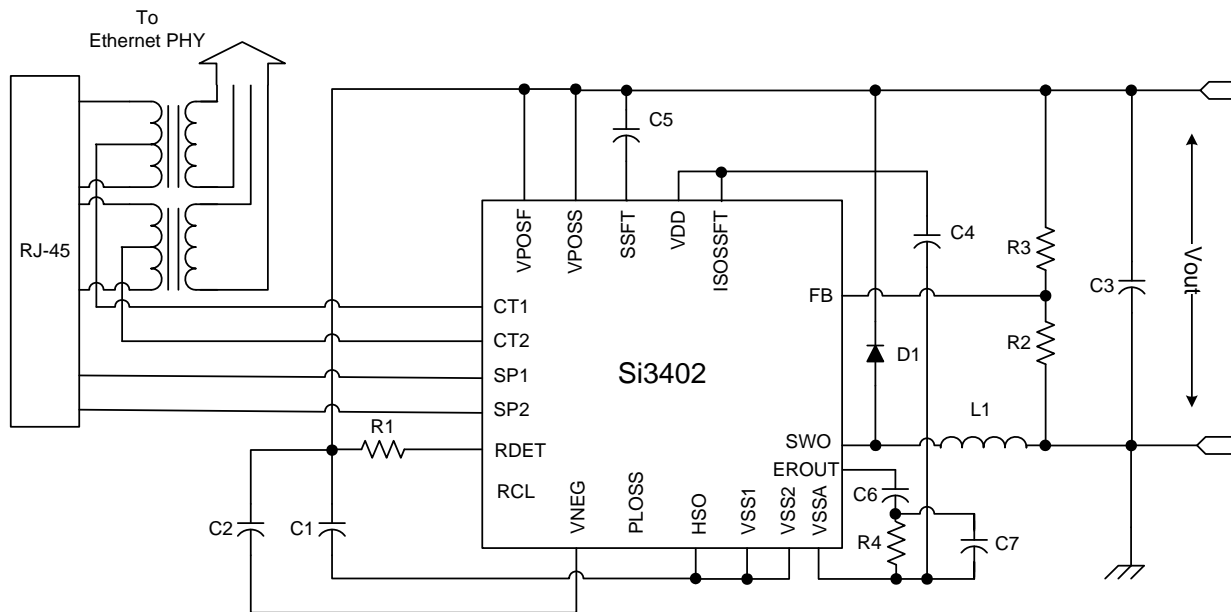
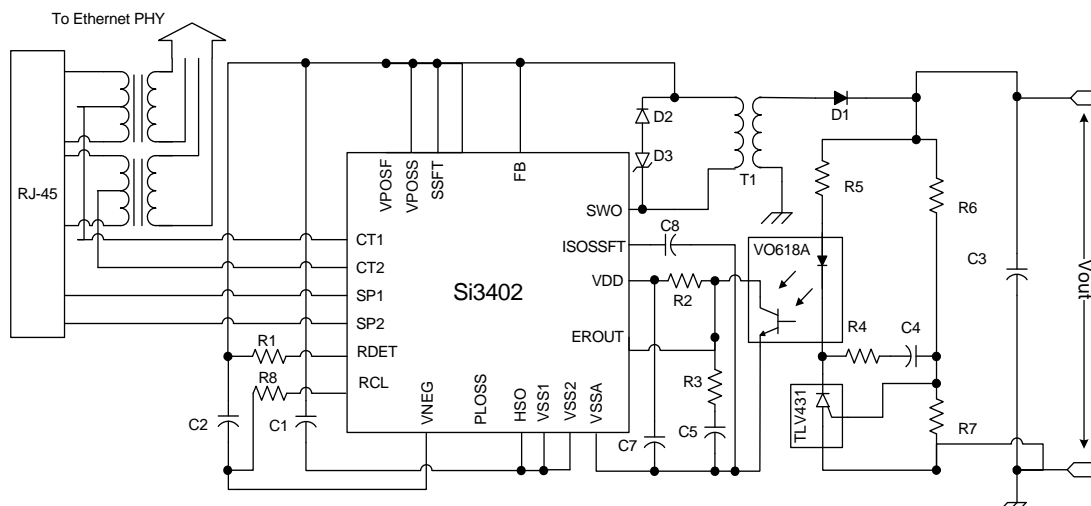

Figure 1. Schematic—Class 0 with Non-Isolated 5 V Output*
Figure 2. Schematic—Class 1 with Isolated 5.0 V Output*
6. Applies to non-isolated applications only (VOUT on schematic in Figure 1).
| <ol style="list-style-type: none"> 1. Transient surge defined in IEC60060 as a 1000 V impulse of either polarity applied to CT1–CT2 or SP1–SP2. The shape of the impulse shall have a 300 ns full rise time and a 50 μs half fall time with 201 Ω source impedance. 2. The classification currents are guaranteed only when recommended RCLASS resistors are used, as specified in Table 10. 3. IPORT includes full operating current of switching regulator controller. 4. The PD interface includes dual-level input current limit. At turn-on, before the HSO load capacitor is charged, the current limit is set at the inrush level. After the capacitor has been charged within \sim1.25 V of VNEG, the operating current limit is engaged. This higher current limit remains active until the UVLO lower limit has been tripped or until the hotswap switch is sufficiently current-limited to cause a foldback of the HSO voltage. 5. See application note, “AN956: Using the Si3402-B PoE PD Controller in Isolated and Non-Isolated Designs” for more information. 6. Applies to non-isolated applications only (VOUT on schematic in Figure 1). | | | | | |
The application determines the converter topology. An isolated application will require a flyback transformer-based switching topology while a non-isolated application can use an inductor-based buck converter topology. In the isolated case, dc isolation is achieved through a transformer in the forward path and a voltage reference plus opto-isolator in the feedback path. The application circuit shown in Figure 2 is an example of such a topology. The non-isolated application in Figure 1 makes use of a single inductor as the energy conversion element, and the feedback signal is directly supplied into the internal error amplifier. As can be seen from the application circuits, the isolated topology has an increased number of components, thus increasing the bill of materials (BOM) and system footprint.